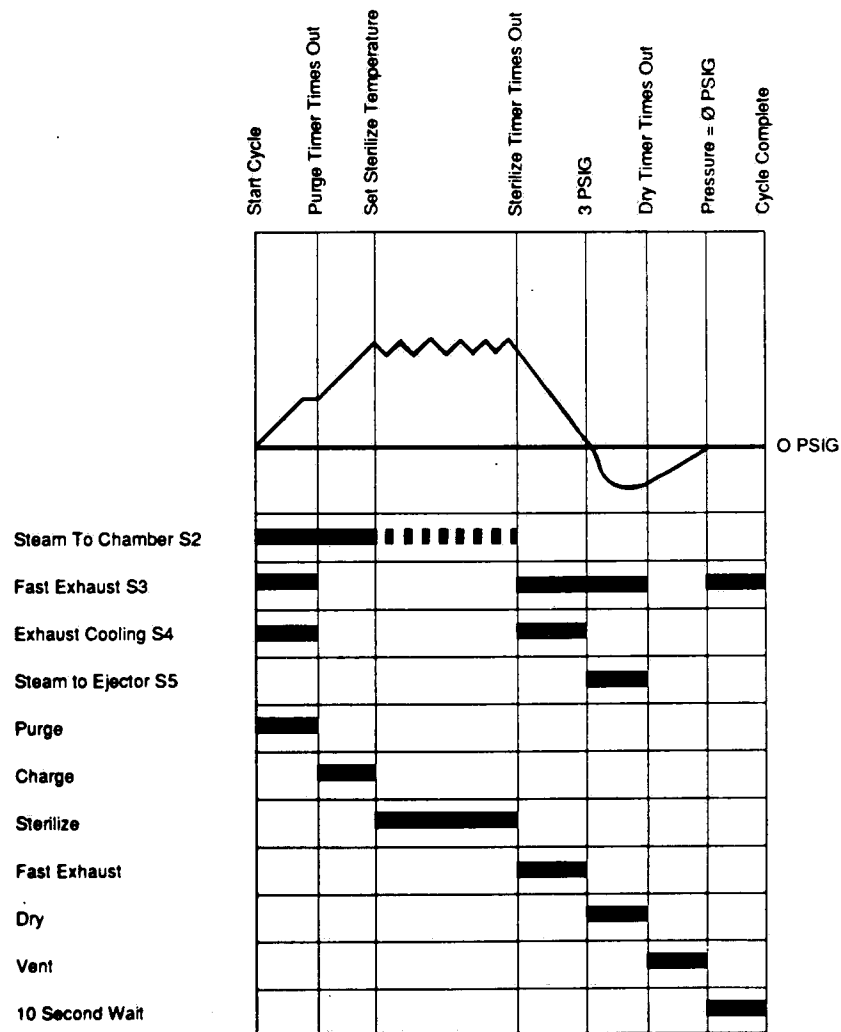

FIGURE 6-1 – Cycle Graph: Gravity and Flash Cycles - Gravity Sterilizer
2. Use cycle graphs, Figures 6-1 through 6-5, to follow the sterilization cycles through the various phases. The cycle graphs may also be used to check for correct operation of the solenoid valves which control the various phases.
The cycle graphs (Figures 6-1 thru 6-5) are representations of the operations of the cycles available with the sterilizer. They are intended to be used for two main purposes: 1) as an aid in understanding how the various cycles work, and 2) as an aid in troubleshooting. The upper graph on each page is a representation of chamber pressure and temperature variation during the separate phases of the cycle.